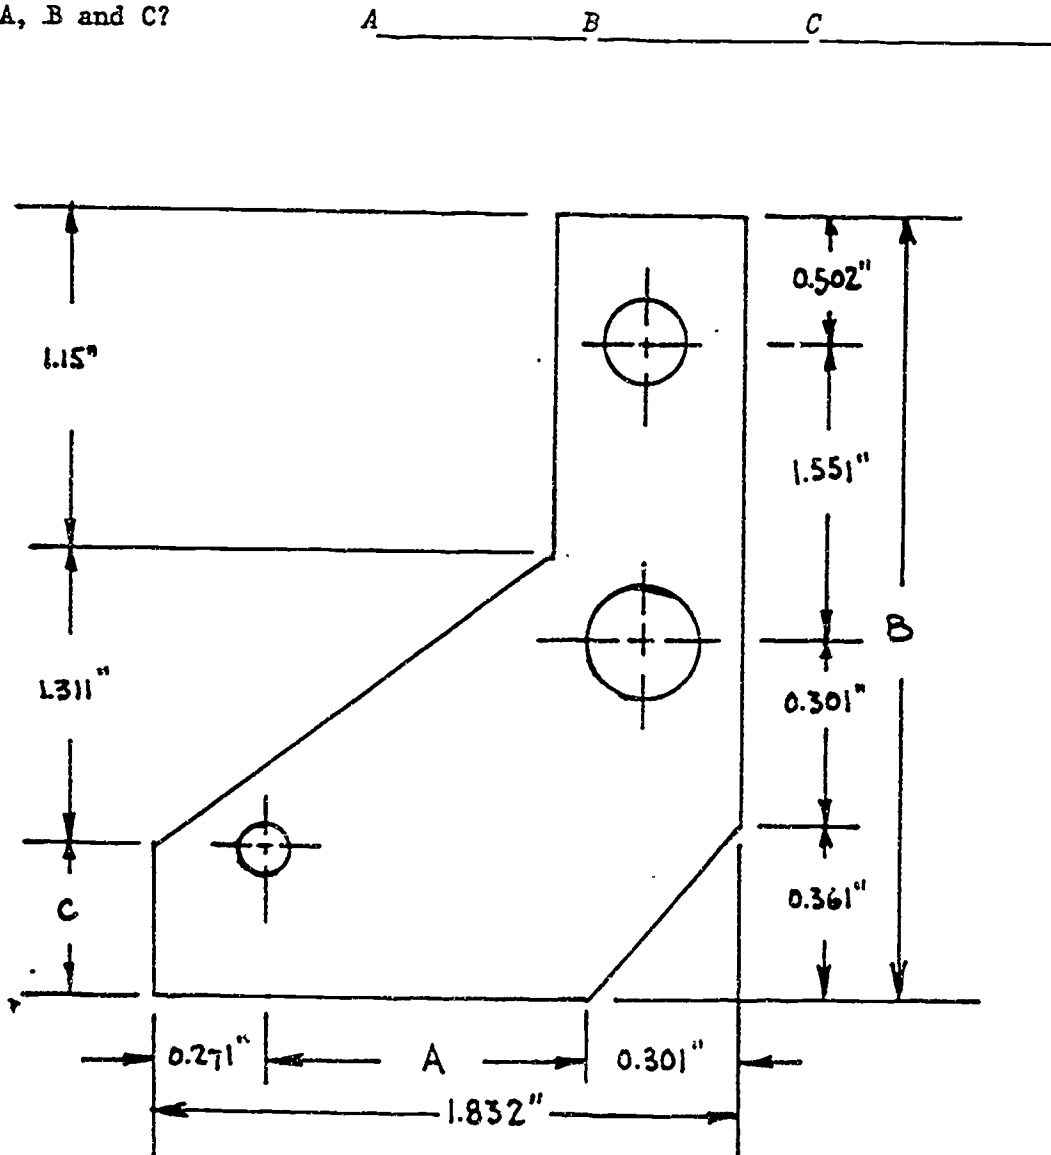

Figure 8: Find the missing dimensions.
5. Your shop foreman gives you a sketch of a gage to be cut from sheet metal. Look at Figure 8 below. You notice that before you can lay it out, you must find some missing dimensions. What are the lengths of A, B and C?